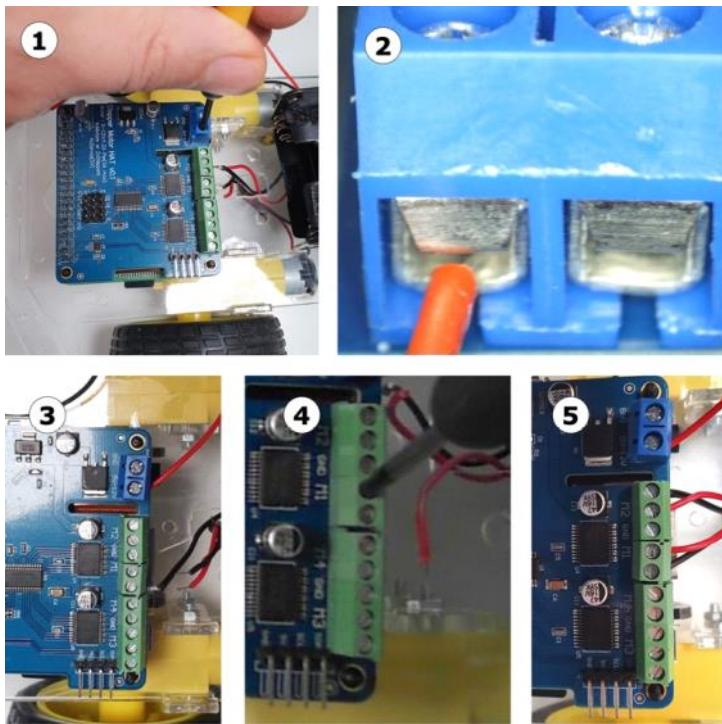

Figure 6.37 – Steps for connecting the wires
*Figure 6.37 shows the steps for the connections:*
Perform the following steps with reference to *Figure 6.37* to connect the wires: